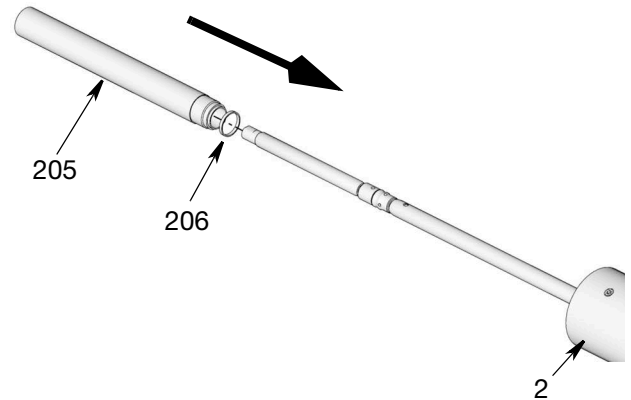

FIG. 41
- Apply a thin layer of grease around gasket (206). Install gasket over end of spacer cylinder (205). Slide cylinder over rod assembly as shown in FIG. 41. Thread end of cylinder into bottom of pump adapter (2). Use a pipe wrench to turn cylinder until tightened securely. Torque to 45-55 ft-lb (61-74 N•m).